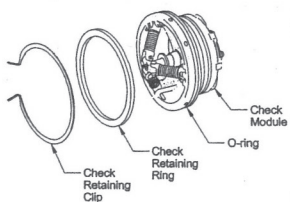

Figure 3
3. Remove the check-retaining clip by pinching the clip ears together. This will disengage the clip from its groove. Remove clip and check-retaining ring. Pull check module straight out of body. The check module is sealed in place with an o-ring. See Figure 3.